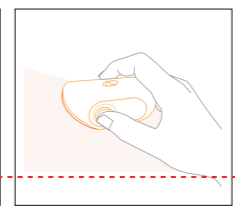

Figure 11 Firmly press the sensor
- Firmly press the sensor down to the cleaned and dried skin site. (Figure 11)